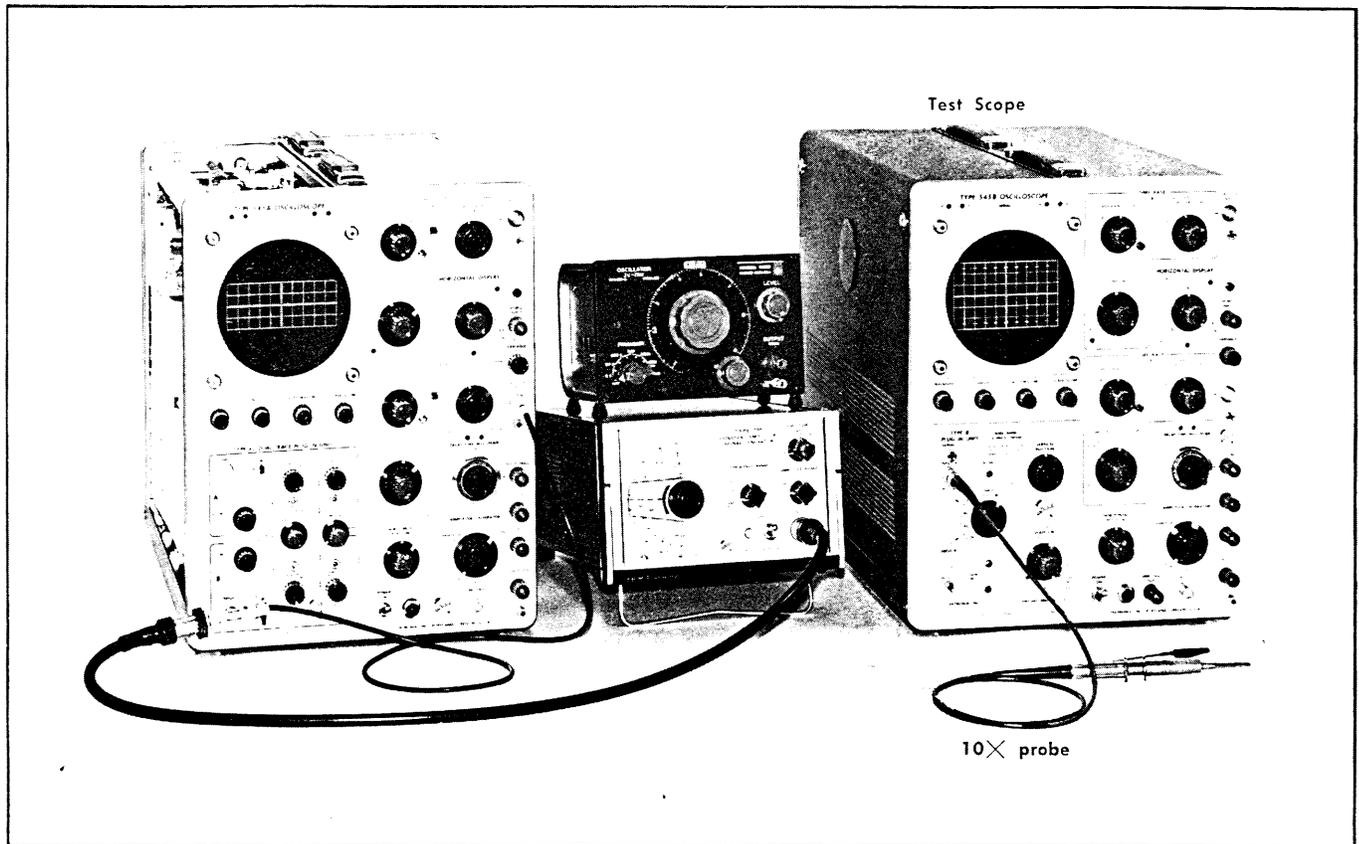

Fig. 6-20. Equipment setup for step 28.
a. Equipment setup is shown in Fig. 6-20.